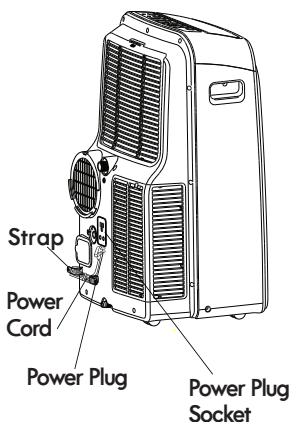

Fig.23
- Turn off and unplug the unit, wrap the cord and bundle it with the supplied strap (see Fig. 23). Remove the batteries from the remote control.